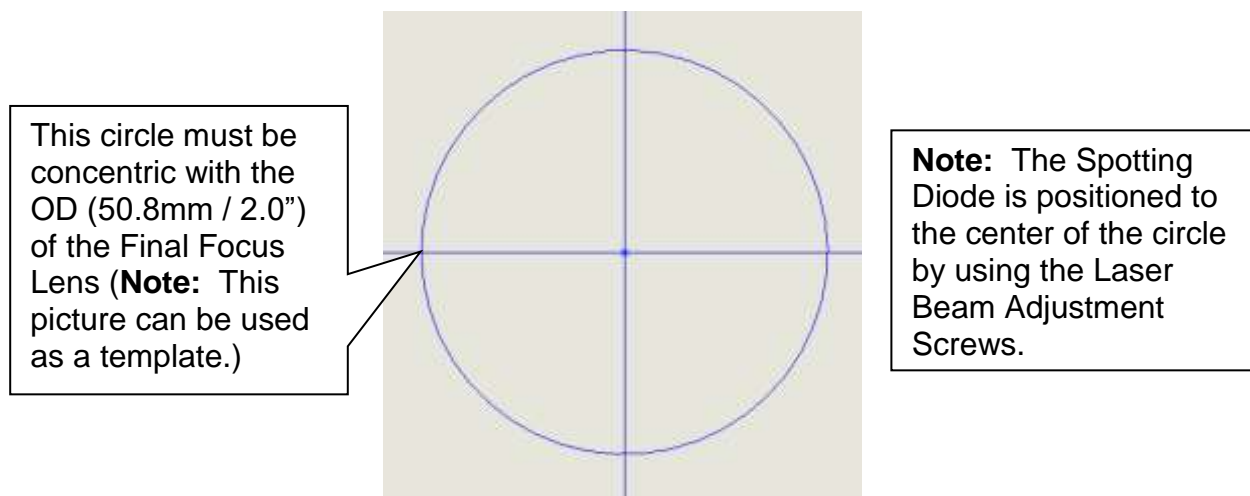

Figure 30
3. Position a copy of the target shown in **Figure 30** on the work surface / welding plane concentric with the OD of the Final Focus Lens (Note: This can be done by moving the Final Focus Lens down to the target or moving the target up to the Final Focus Lens.).
5. The Spotting Diode is now turned on per the instructions on **Page 60** / Welding. The target shown in **Figure 30** is used to align the Spotting Diode to the center of the circle using the two Laser Beam Adjustment screws. (**ATTENTION:** If the laser beam is not concentric to the Final Focus Lens, the laser beam will be clipped and power / energy will be lost.)